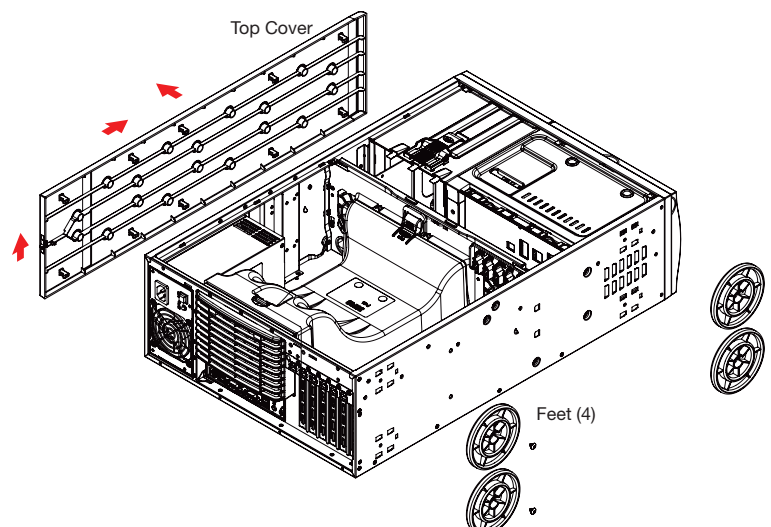

Figure 44. Preparing to Install the Rails
3. Remove the top and right covers by first removing the screws that secure them to the frame. Depress the button on the top of the frame to release and remove the cover. Remove the screws from the feet and remove them from the frame (see figure 44).